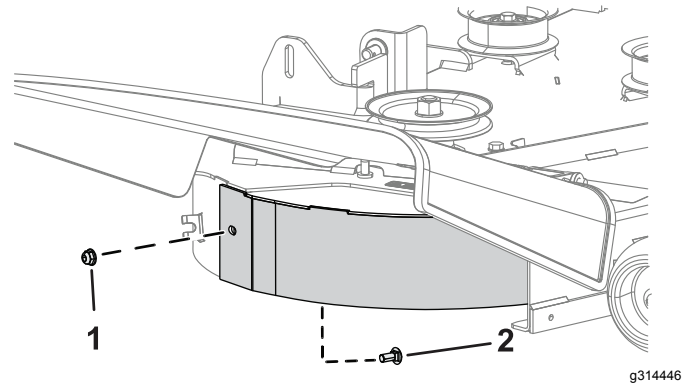

Figure 3
2. Secure the rear wall of the right baffle to the mower deck using 1 carriage bolt (5/16 x 3/4 inch) and nut (5/16 inch) as shown in Figure 3.